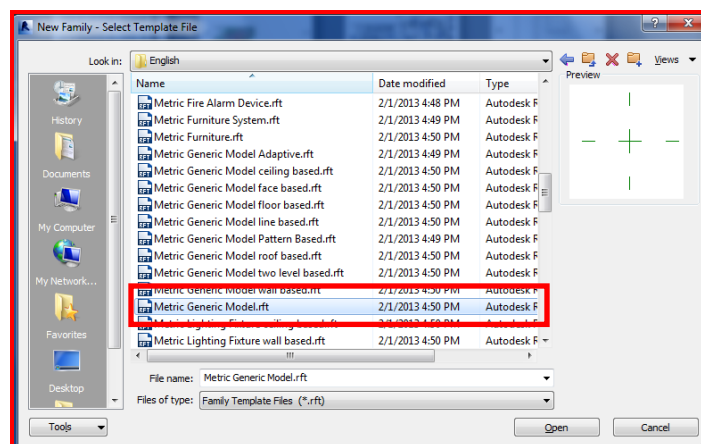

Figure 2.2
3. In the choose template dialog box as shown in Figure 2.2, select the **Metric_Generic_Model** template, click  and then click .